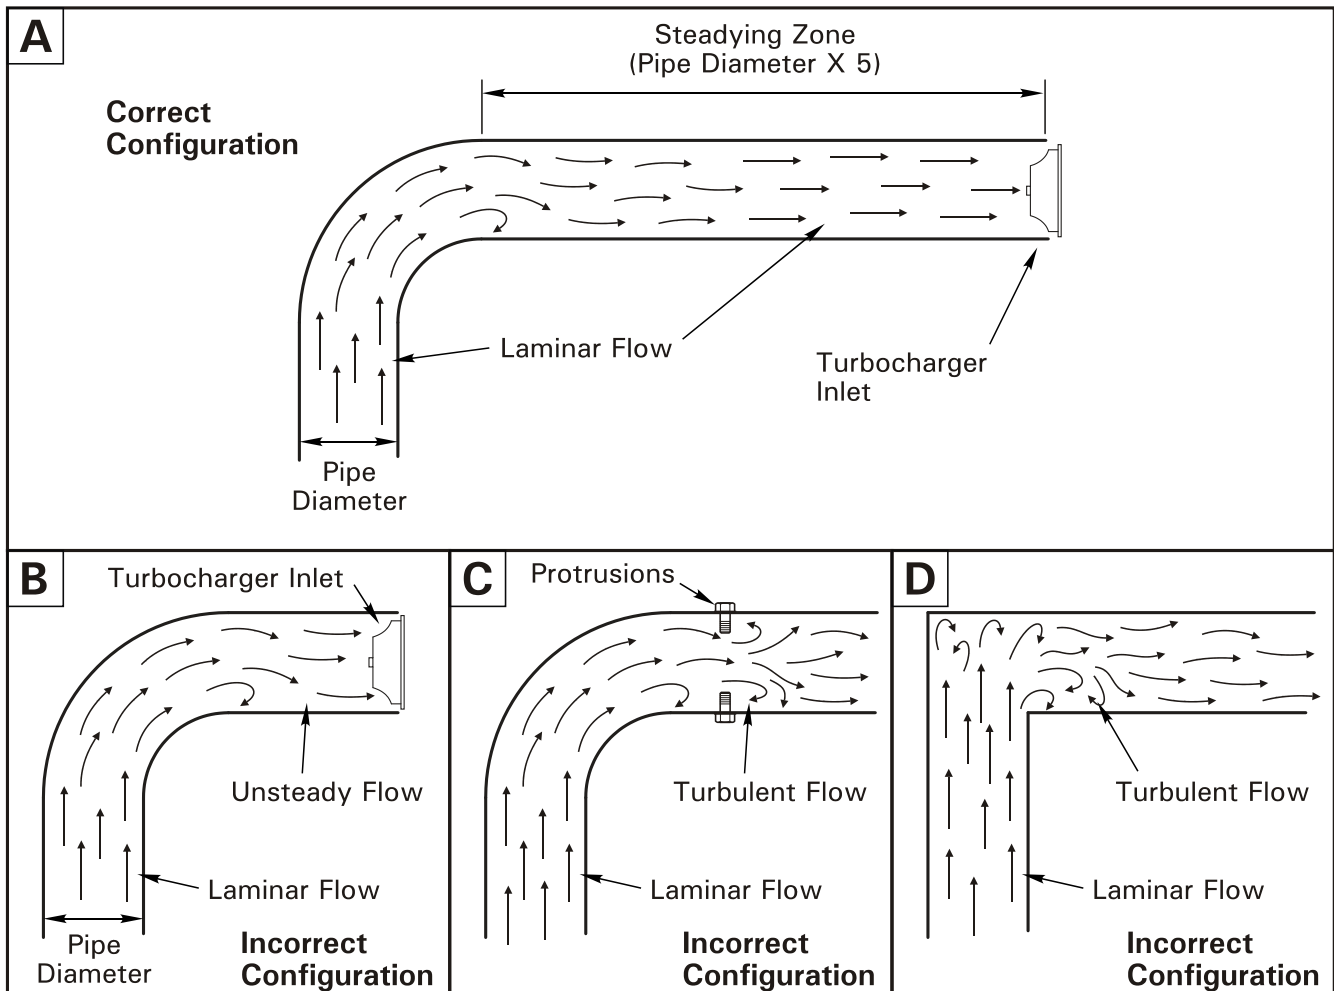

Figure 26: Examples of correct and incorrect intake air flow.
If any piping junction or change in direction is present before the turbocharger, a steadying zone at least five times the pipe diameter must be present to minimize any turbulence in the flow (Figure 26).
- Example A in Figure 26 shows a correct configuration. The pipe changes direction gradually to minimize turbulence and a steadying zone is provided after the bend to allow the intake air to return to a laminar flow.
- Examples B, C and D in Figure 26 show incorrect configurations.